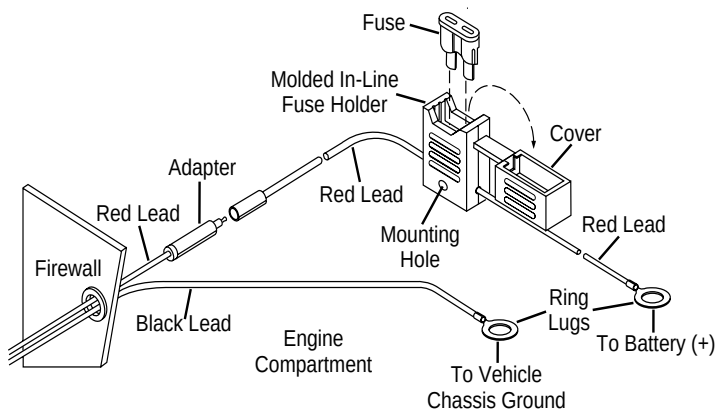

Figure 3. - Power Cable Assembly
3. Locate the fuse holder as close to the battery as possible and away from any hot component. Mount the fuse holder using the provided mounting hole and dress wires as necessary. Connect the fuse holder red adapter lead plus to the mating receptacle on the red lead of the power cable. See Figure 3..
6. Plug fuse into in-line fuse holder as shown in Figure 3..